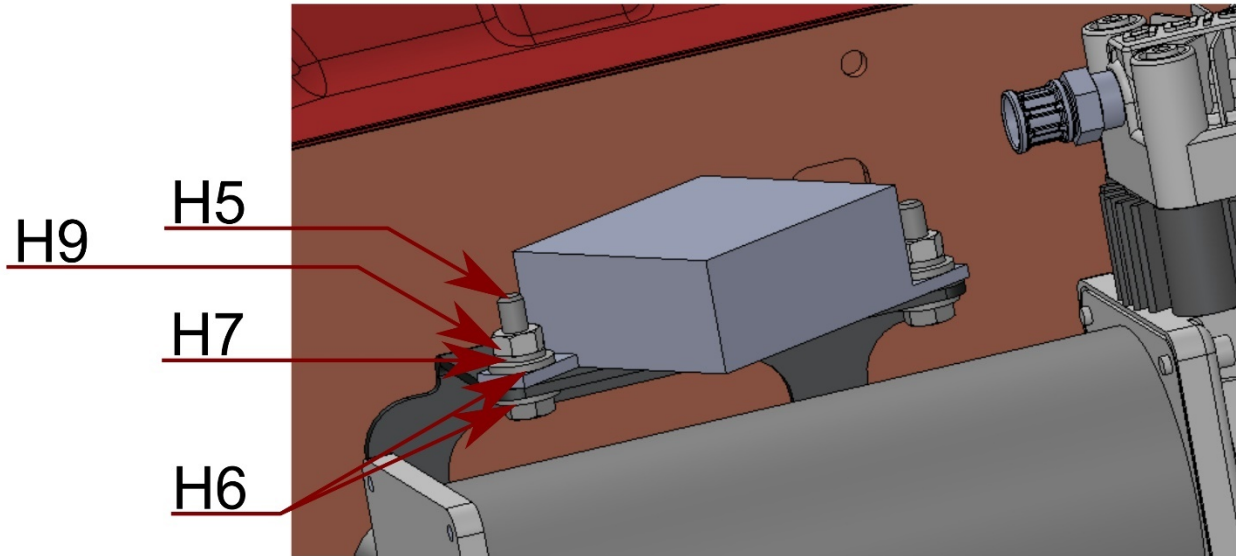

Figure 11- Computer Module, Hardware Stacking Order
6. Fully tighten hardware H1 & (if required), attach the module to the relocation bracket using hardware H5, H6, H7 & H9 as shown in the above Figure 11.